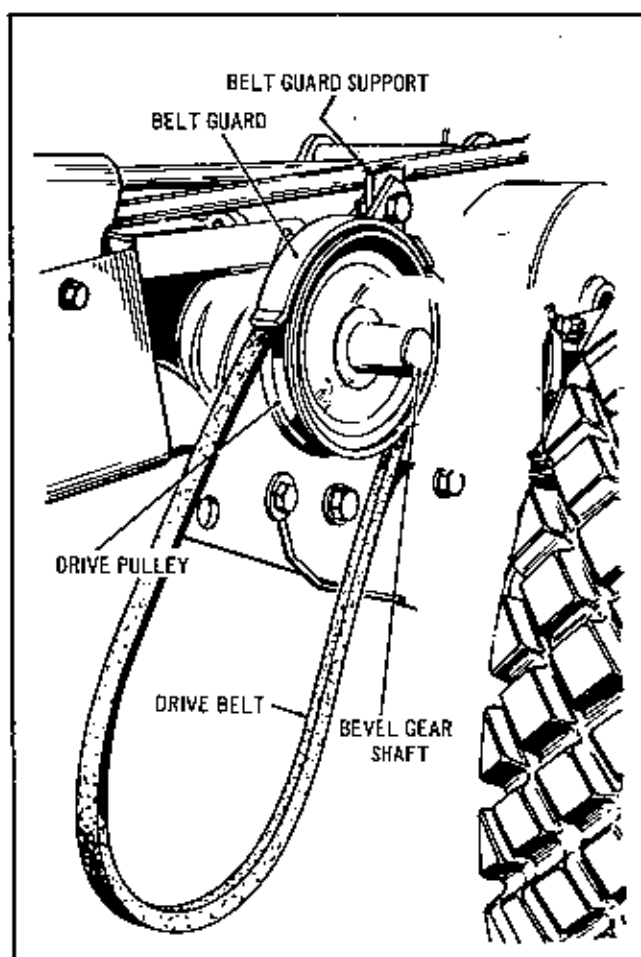

FIGURE 1
1. Mount Drive Pulley to Shaft of Bevel Gear Assembly See Figure 1, and secure in place with Key and Set Screw. Hub of Drive Pulley is to face inward. Place Drive Belt on Drive Pulley and mount Belt Guard Support to inside surface of Side Plate nearest Drive Pulley. See Figure 5 for Mounting Bolt location. Attach the Belt Guard to the Guard Support as shown in Figure 1. Allow approximately 3/16" clearance between Belt and Guard.